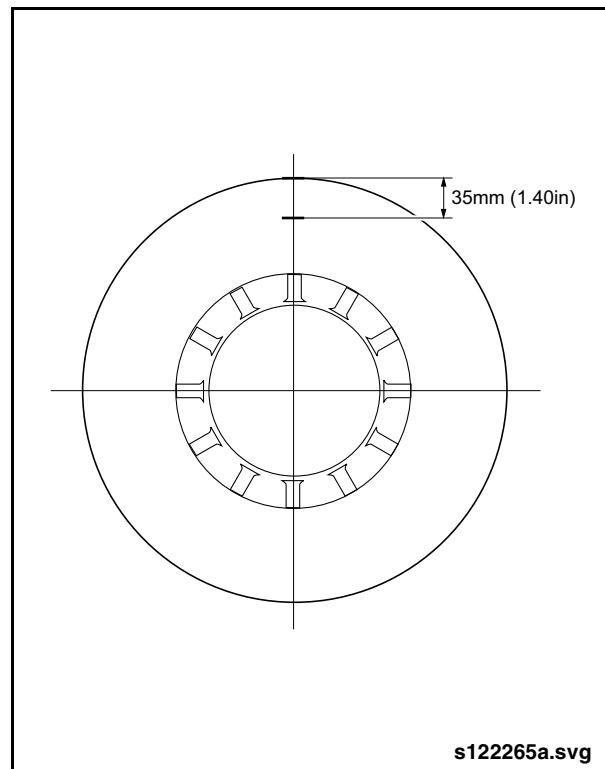

Fig. 1-48: Rotor Run-Out Measurement Point
- a. Mount dial indicator (Items 29 & 69 from special tools list) so that tip of indicator is perpendicular to brake disc surface at 1.40" (35 mm) down from the outer rim of the rotor. See "Fig. 1-48: Rotor Run-Out Measurement Point" on page 54.